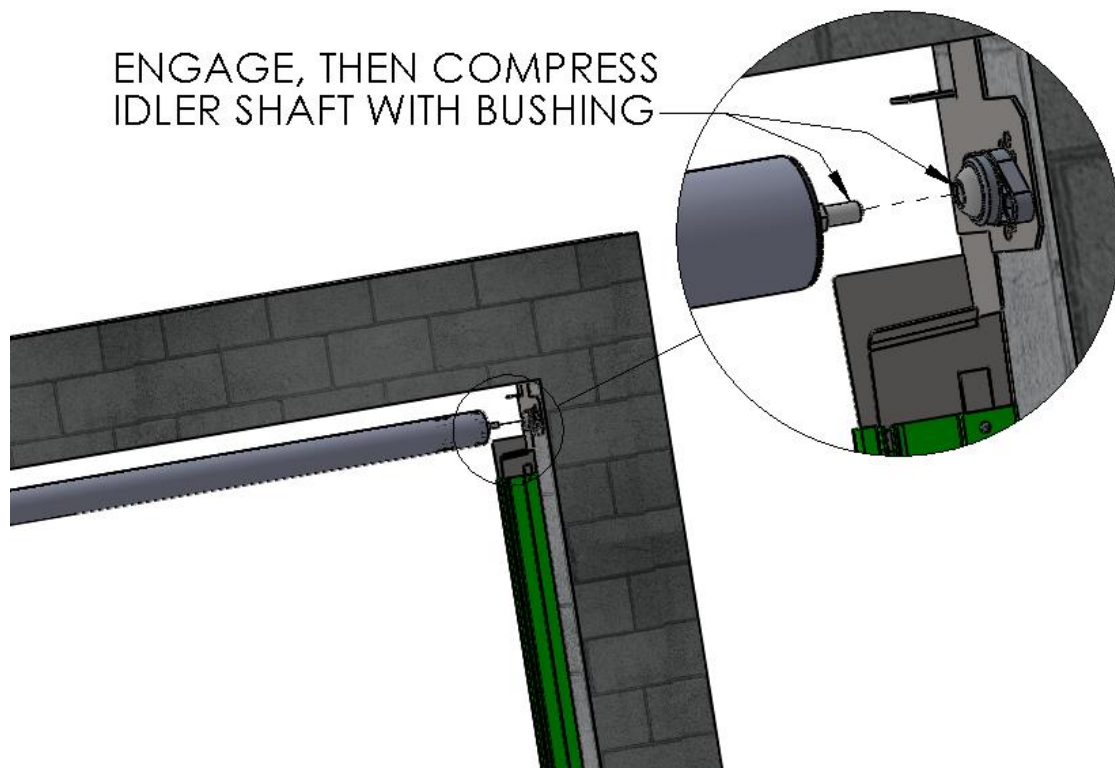

Figure 6 INSTALL R.H. SIDE OF HEADER ASSEMBLY
1. Using two (2) people, and two ladders at minimum, raise the Header Assembly, and insert the Idler Shaft into the installed Idler Bearing Assembly at upper right. (Figure 6 INSTALL R.H. SIDE OF HEADER ASSEMBLY)